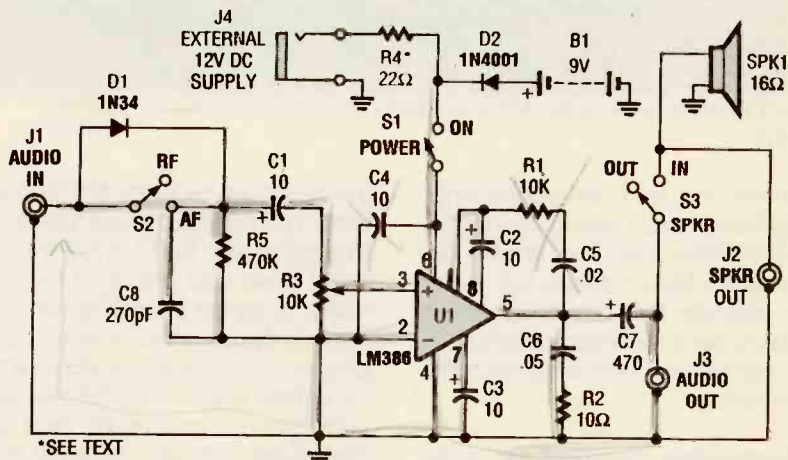

Fig. 1. The Test Bench Amplifier (which is designed as a "building block") is built around an LM386 low-voltage, audio-power amplifier (U1).
**About the Circuit.** Figure 1 shows a schematic diagram of the Test Bench Amplifier (which is designed as a "building block" to allow it to easily be incorporated into a myriad of other projects). The circuit is built around an LM386 low-voltage, audio power amplifier (U1), which is easy to use, stable, and requires very few support components. The LM386 can deliver up to 0.4 watts with harmonic distortion below 1%. It can be powered from a supply voltage of anywhere from 4 to 12 volts, and has a quiescent current drain of 3 mA, making it ideally suited to battery-powered projects.